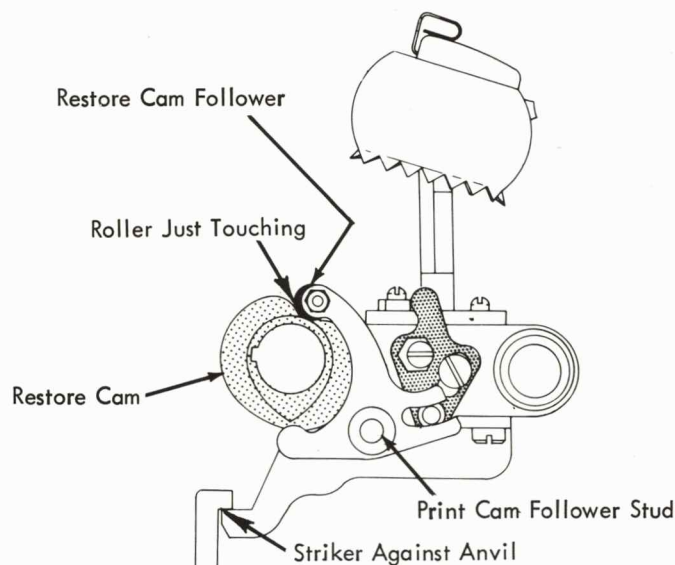

FIGURE 97. Restoring Cam Follower Eccentric Adjustment
- b. Restoring Cam Follower Eccentric - With the print cam follower at the high point of the cam and the platen removed, hold the typehead toward the rear until it is restricted by the anvil and striker. The rubber roller should just touch the restoring cam (Fig. 97). Adjust the eccentric, keeping the high point forward, to satisfy the condition.